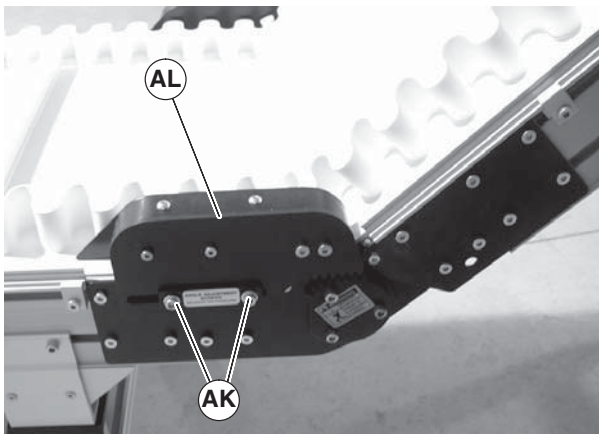
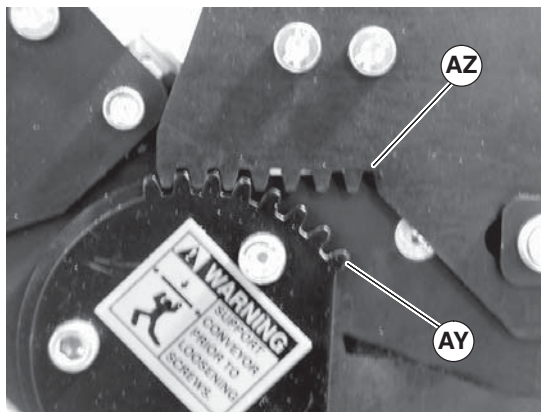

Figure 35
Figure 36
- If equipped, install lower knuckle return roller assembly (Figure 35, item AL). To properly align teeth, ensure the first gear of the pinion plate (Figure 36, item AY) matches with the first pocket of the rack plate (AZ). Secure with screws (Figure 35, item AK) on both sides of the conveyor.